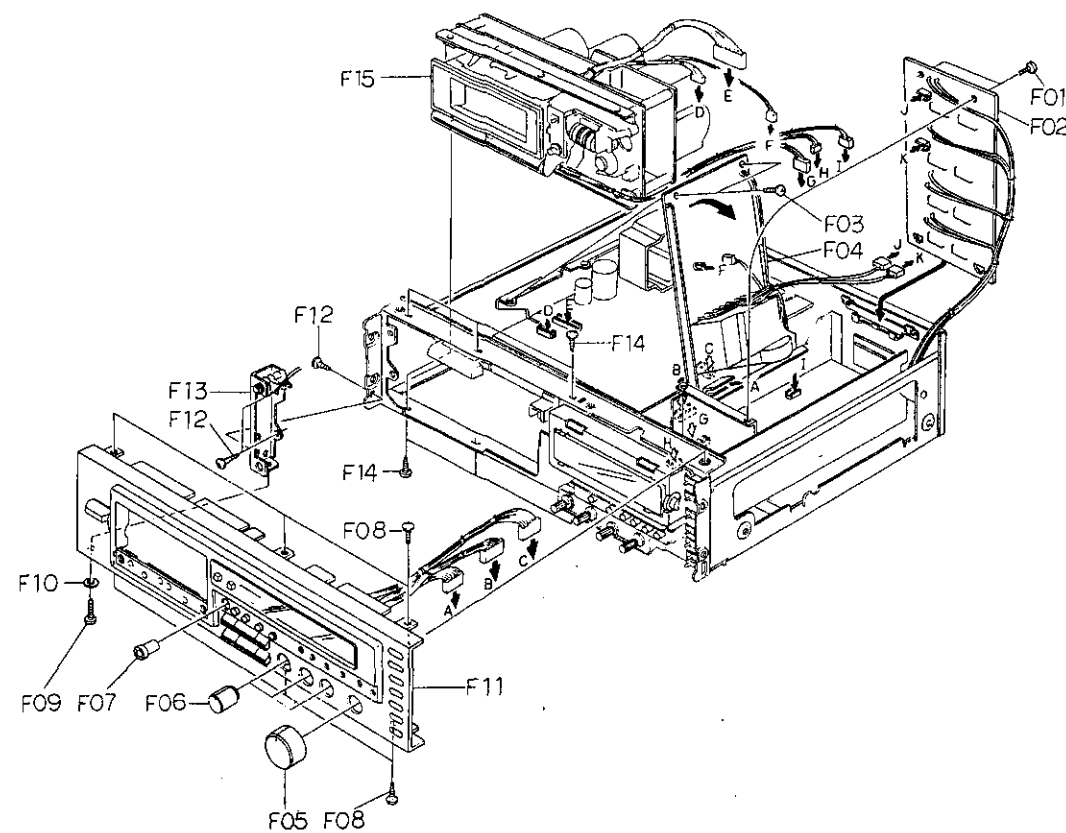

Fig. 2.2
- (1) Refer to Fig. 2.2. Remove Front Panel Ass'y referring to item 2.5.
- (2) Pull out F23 (Function Switch Knob Ass'y).
- (3) Remove the wires connected by wrapping from F26 (Switch P.C.B. Ass'y).
- (4) Remove F24 and F25, then disassemble F26 (Switch P.C.B. Ass'y).
- (2) Remove F33, then disassemble F34 (Bias Cal. Ass'y).
- (3) Remove F35, then disassemble F36 (Bias Cal. P.C.B. Ass'y).
- (2) Remove F37, then disassemble F38 (Power Switch Knob).
- (3) Remove F39, then disassemble F40 (Power Switch Holder Ass'y).
- (4) Remove F41, then disassemble F42 (Power Switch).
- (2) Remove F43, then disassemble F44 (Insulator) and F45 (Lamp P.C.B. B Ass'y).
- (3) Remove F46 (Lamp P.C.B. C Ass'y) by releasing the self-interlocking pin of the Reflector.
- (2) Remove F01, F02, F03 and F04, then disassemble F05 (Control Button Ass'y).
- (3) Remove F06, then disassemble F07 (Control Switch P.C.B. Ass'y).
- (4) Remove F08, then disassemble F09 (Calibration Indicator P.C.B. Ass'y).
- (1) Refer to Fig. 2.2. Remove Mechanism Ass'y referring to item 2.7.
- (2) Press the Eject Button to open the Cassette Case Ass'y.
- (3) Remove F01 and F02, then disassemble F03 (Cassette Case Holder L Ass'y) by releasing the self-interlocking pin of the Damper Lock Arm and F04 (Cassette Case Ass'y).
- (4) Remove F05, then disassemble F06 (Cover Plate Ass'y).
- (2) Remove F07, then disassemble F08 (Tape Counter Ass'y).
- (3) Remove F09, then disassemble F10 (Pitch Control Holder Ass'y).
- (4) Remove F11, then disassemble F12 (Memory Switch).
- (5) Remove F13, then disassemble F14 (Pitch Control Volume).
- (2) Remove F01 and F02, then disassemble F03 (Flywheel Holder Ass'y) and F08 (Capstan Belt).
- (3) Remove F04, then disassemble F05 (Capstan Motor Ass'y).
- (4) Remove F06, then disassemble F07 (Speed Cal. P.C.B. Ass'y).
- (5) Remove F09 (Supply Flywheel Ass'y), then disassemble F10 (Take-up Flywheel Ass'y).
- (6) After removing both Flywheel Assemblies, disassemble F11 (Thrust Washer 3mm), F12 (Thrust Washer 2.6mm), F13 (Flange Thrust Cap) and F14 (Flange Thrust Spring).
Refer to Fig. 2.2.
- (2) Remove F01, then disassemble F02 (FL Indicator Ass'y including 1 connector).
- (3) Remove F03 (FL Indicator Hold Plate) and F04 (Indicator P.C.B. Plate), then disassemble F05 (FL Indicator Holder L), F06 (FL Indicator Holder R) and F07 (FL Indicator P.C.B. Ass'y).